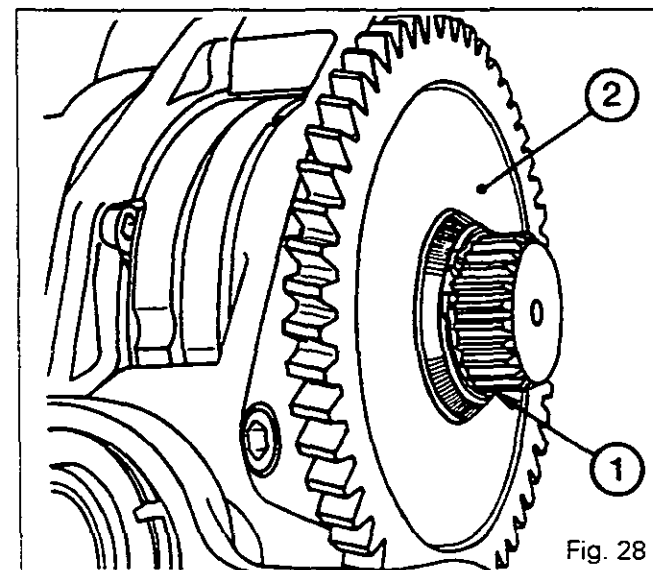

Fig. 28
111. Refit the gear (2) (if mounted) and the circlip (1) (Fig. 28).
113. Refit the gear (2) (if mounted) and the circlip (1) (Fig. 28).